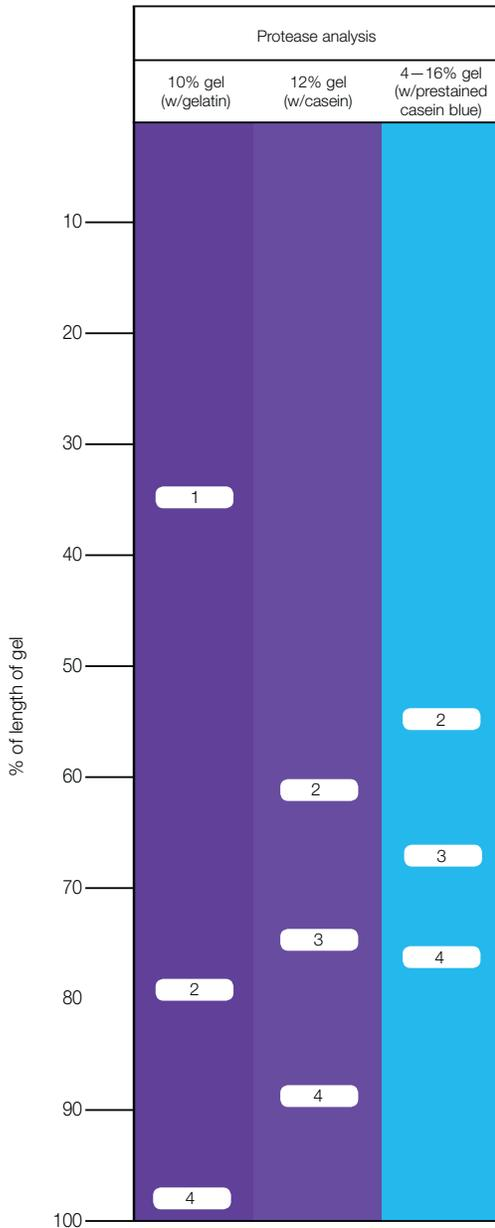

Figure 19. Novex Zymogram gel migration chart. The numbered bands refer to the following proteases:
- Separation range: 10–220 kDa (Figure 19)